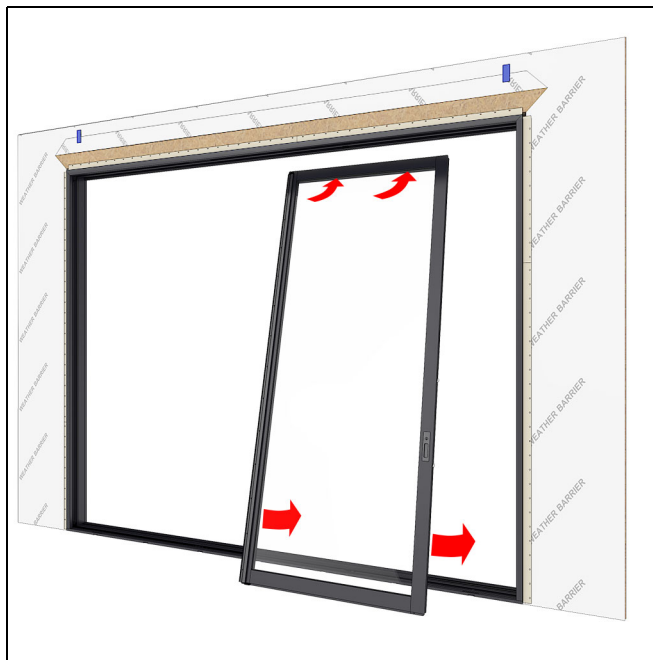

Figure 113
4. Install operator panel (A) onto the interior track. Lift the top of the panel into the interior most head jamb track. Then swing the bottom over the sill track until centered over the roller guide. Set the panel gently onto the guide. See Figure 113.